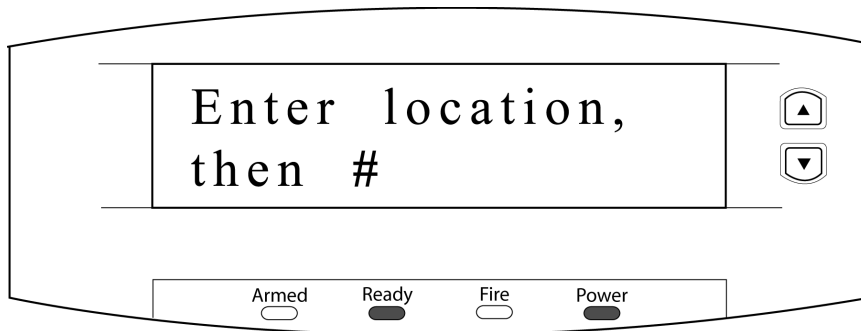

Figure 5: Alarm Panel - Enter Location
4. Select the **0** key followed by the **#** key. The alarm panel then prompts for the location (see Figure 5). Each “location” on the alarm panel refers to a different task. Each location may then have a number of segments that each have their own purpose within the individual location.
2. Select the **\*** key to save the selection. Since Location 207 only has one segment to configure, the LCD returns to the Alarm Panel - Enter Location screen (see Figure 5 on page 3 where the LCD will show the last location entered in the lower right corner).